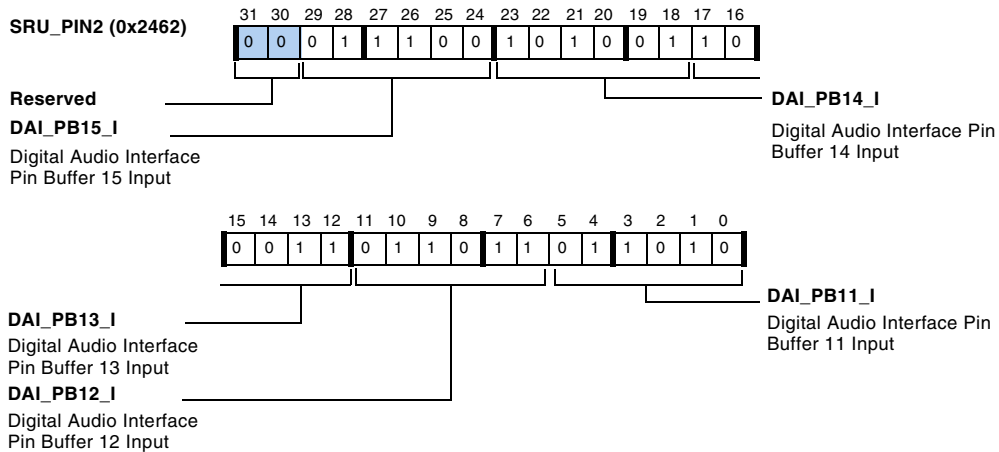

Figure A-48. SRU\_PIN2 Register
- SRU\_PIN2, described in Figure A-48